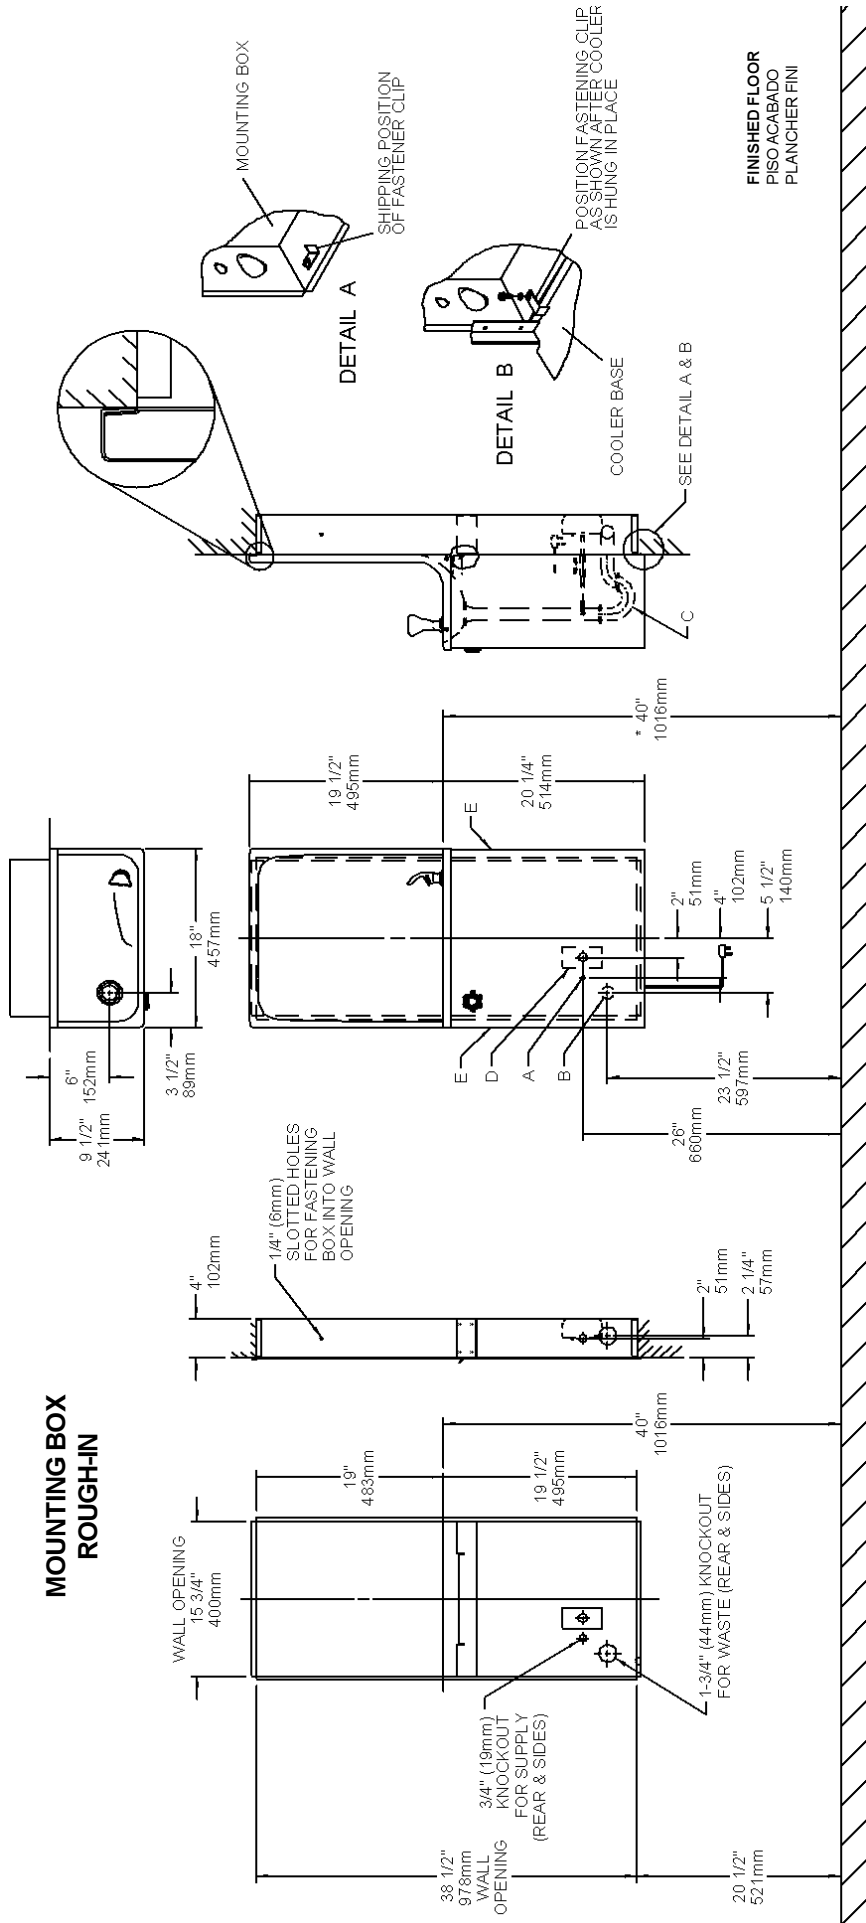

FIG. 2
- 1) Hang the unit from the mounting box by placing tabs from the upper backside of the basin over top of the upper flange on mounting box as shown in FIG. 2.
- 2) Secure unit in place by positioning fastening clips as shown in FIG. 2 - Detail B.